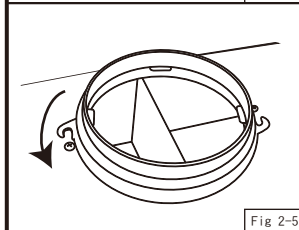

Fig 2-5
8. Installation of Exhaust Pipe (Fig2-5)